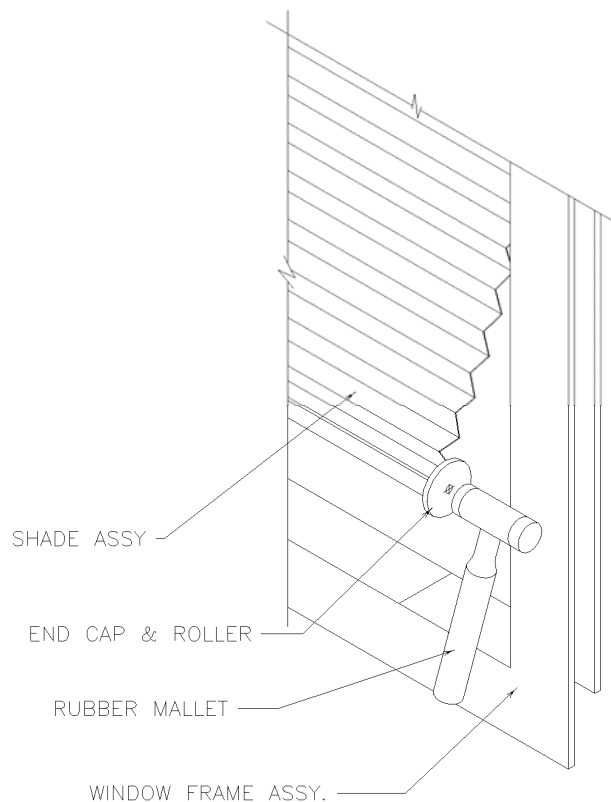

FIGURE 15/ GRAPHIC 25-23-03-991-015
5. Lower rail and end cap reattachment (Refer FIGURE 15/ GRAPHIC 25-23-02-991-015)